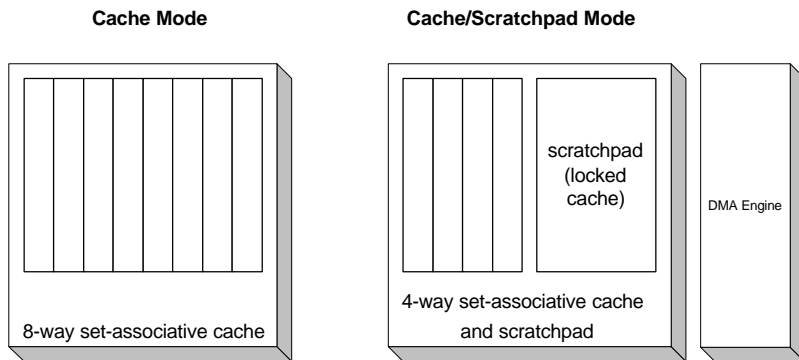

Figure 3 Data cache configuration
- Figure 3 Data cache configuration5